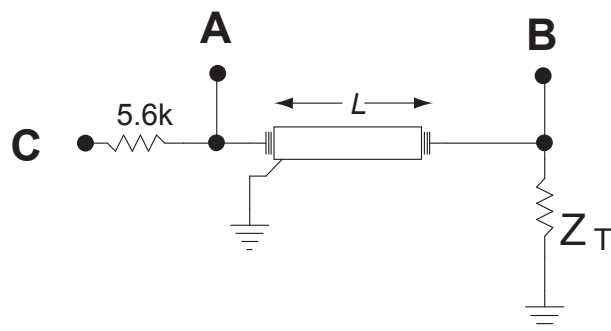

Figure 1:
In this lab, we are going to build the circuit of Figure 1 to investigate propagation characteristics of transmission lines. From reflection measurements, we will determine the propagation speed of waves inside a transmission line, and measure its impedance. Noting Figure 1, consider a transmission line of length  $L$ , impedance  $Z_0$ . Let's denote the propagation speed of electromagnetic waves inside the line as  $u_0$ . We supply a voltage pulse with time duration of  $T$  at point C of the circuit. When the pulse hits point B, due to impedance mismatch, part of the wave is reflected. This reflected wave encounters a similar phenomenon when it reaches point A. As a result, multiple reflections can be observed at points **A** and **B**.
4. Now make the circuit in Figure 1 to study the reflected pulses and measure the cable attributes.
Verify that your circuit is equivalent to the circuit in Figure 1.